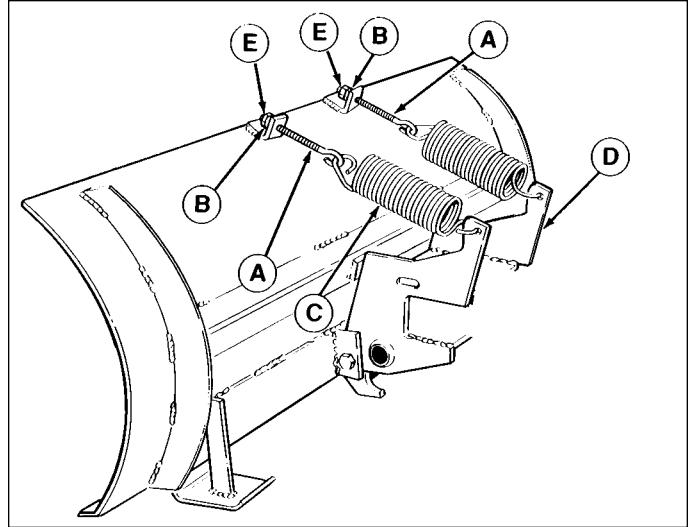

Figure 11. Tension Springs
3. See Figure 11. Insert threaded end of eyebolt (A) through lug on blade, and screw on 5/16 nut (B) just far enough so that it is flush with the end of the eyebolt.
4. See Figure 11. Hook the springs (C) into the pivot frame (D). Using a pliers, stretch the springs to hook the opposite ends to the eyebolts (A).
5. See Figure 11. Tighten the nut (B) on each eyebolt enough to expose about 3/4" (19 mm) of thread.
6. See Figure 11. Holding the first nut (B) with a wrench, add a second nut (E) to each eyebolt, and tighten securely against the first nut to act as a jam nut.